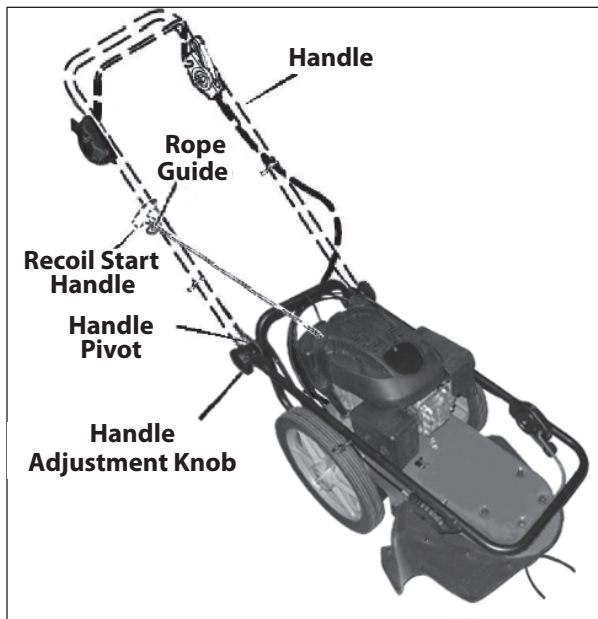

Figure 3: Adjusting the handle bars.
5. To attach the recoil start handle to the rope guide, twist the rope through the rope guide mounted on the right side of the handle. **SEE FIGURE 3.**